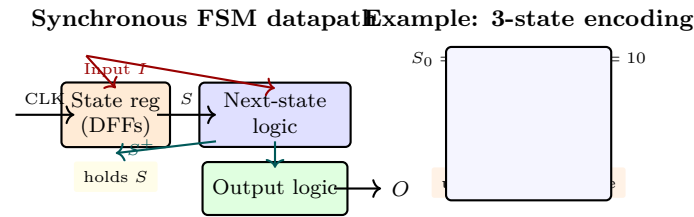

Figure 5.3: Synchronous FSM hardware: state register holds present state; combinational blocks compute next state and output. Unused codes need safe next-state.
- E5.3 **Synthesis.** Synthesise the 3-state FSM in Fig. 5.3 using D flip-flops. Write K-maps for D_1, D_0 and draw the gate-level circuit.